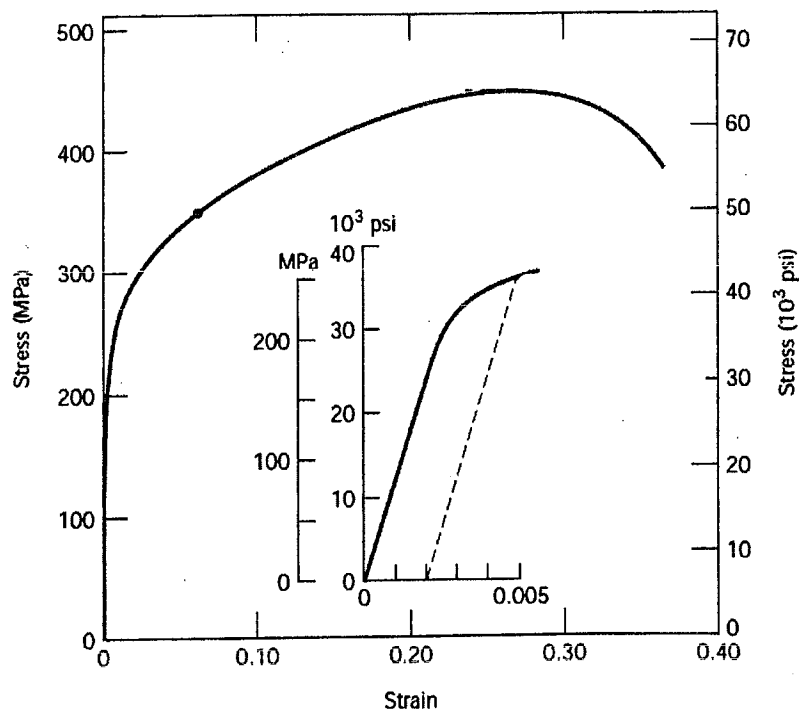

Figure 1
- d. From the tensile stress-strain behavior for the brass specimen shown in Figure 1, determine the following.
b. Calculate the moduli of resilience for the material having the stress-strain behavior shown in Figure 1.